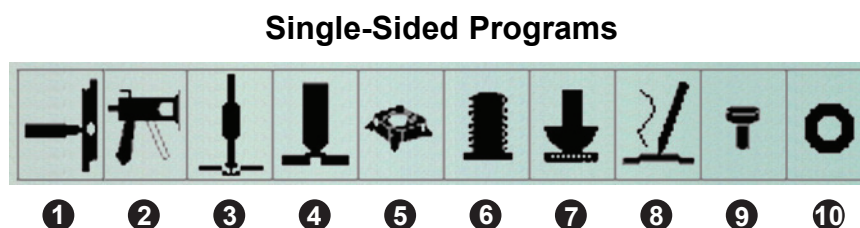

Figure 6.5 Stingray Single Sided Weld Programs
1. Make sure the welder is turned on. Push the Single-Sided weld mode button (fig 6.3). Single Sided Weld Programs will display on the screen (fig. 6.5).
1. Push the Single-Sided weld mode button (fig 6.3). Single Sided Weld Programs will display on the screen (fig. 6.5). The Spectrum software defaults to Single Spot Weld Mode (fig. 6.6).
1. Push the Single-Sided weld mode button (fig 6.3). Single Sided Weld Programs will display on the screen (fig. 6.5). The Stingray software defaults to Single Spot Weld Mode (fig. 6.6).